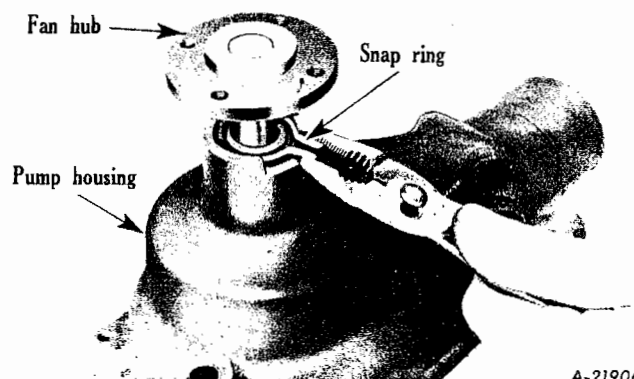
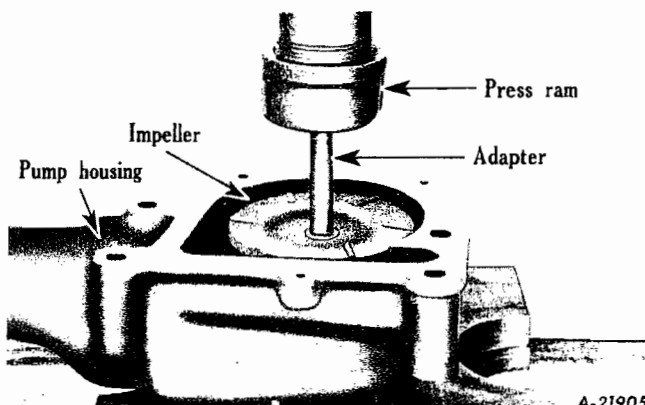

Fig. 34
Fig. 35
4. Remove snap ring from front of water pump shaft bearing (Fig. 34). Support the water pump on an arbor press and push shaft and bearing out, as one assembly (Fig. 35).